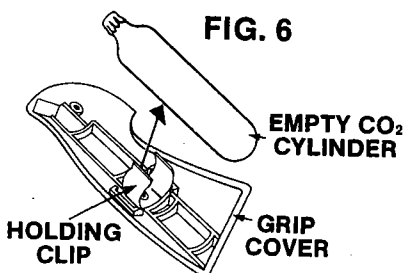

FIG. 6
- D. Remove the grip cover from the left side of revolver lifting from the bottom edge. This will remove CO₂ Cylinder. Slide empty CO₂ Cylinder from holding clip. (Fig. 6.)